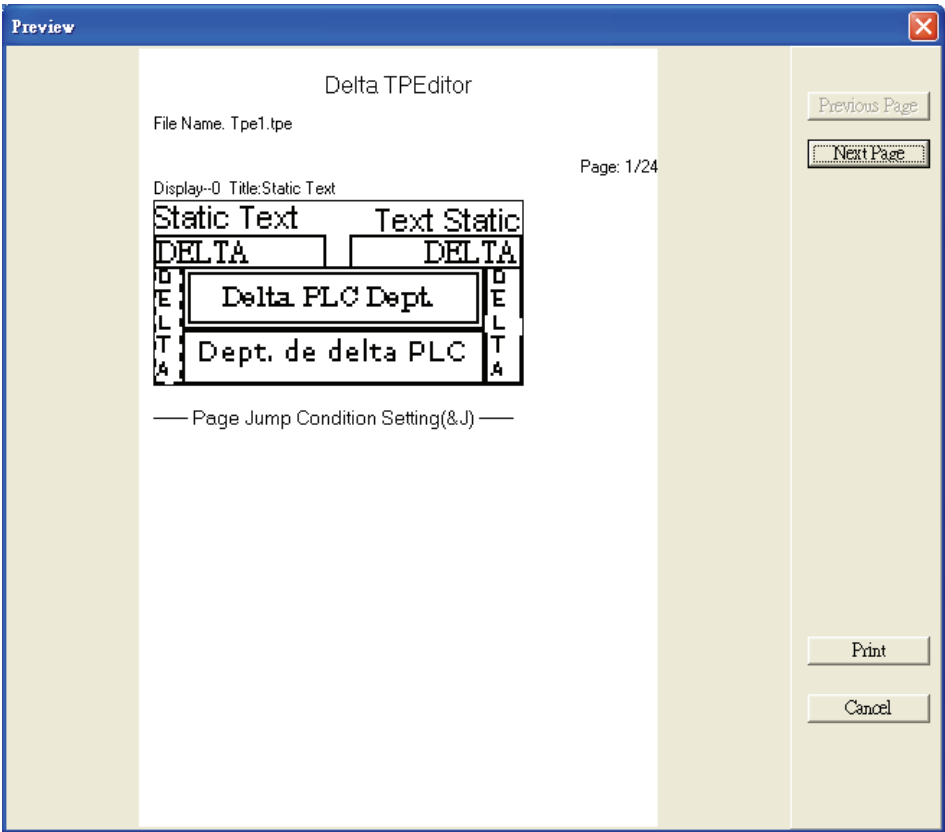
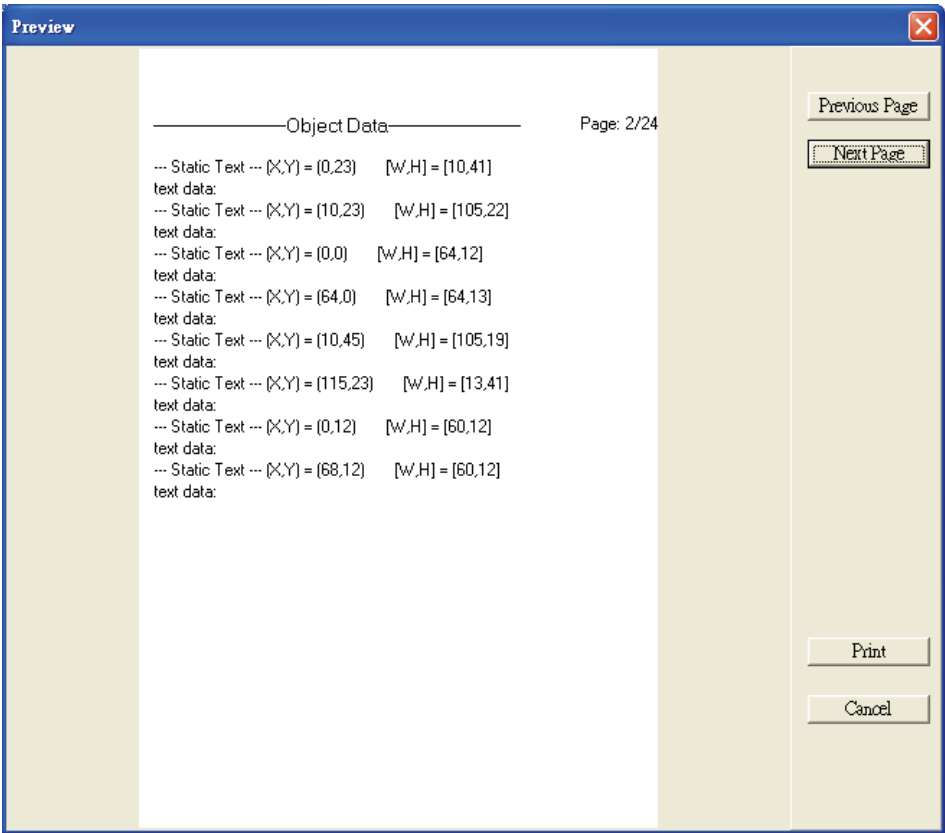

Figure 1-47
Figure 1-48
Step 3. Click Preview button to show the page as it would look if printed (Figure 1-47, Figure 1-48).